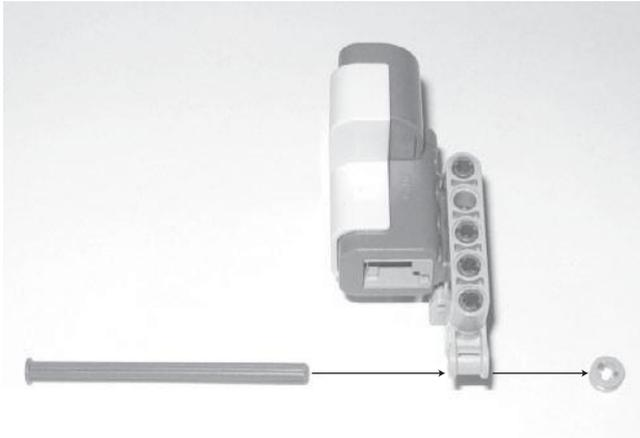

Figure 12.19
Step 2: Place the ultrasonic sensor on its side, push an 8M cross axle with end stop all the way through the 3M cross block, and then lock the 8M cross axle with end stop into place using a half-bushing, as shown in Figure 12.19.